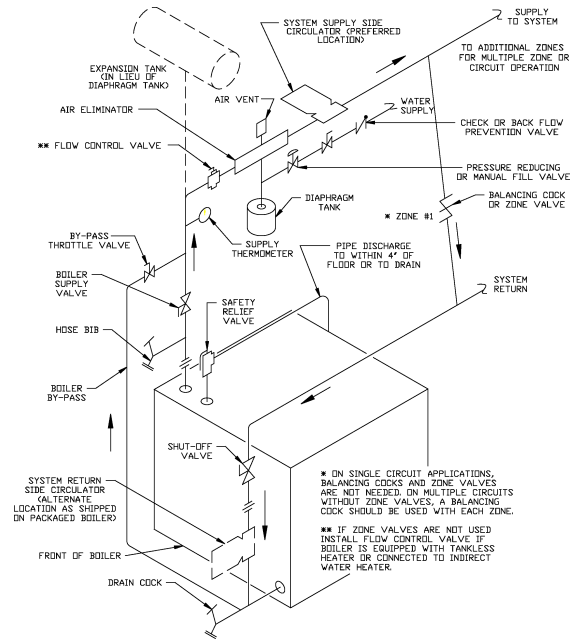

Figure 4: Recommended Boiler Piping For Series Loop Hot Water System
- a. For Forced Circulation HOT WATER HEATING. See Figure 4. Consult I=B=R Installation and Piping Guide No. 200.
Install a pipe tee between the circulator and boiler return along with a second tee in the supply piping as shown in Figure 4. The bypass should be the same size as the supply and return lines. Locate valves in the bypass and supply outlet as illustrated in Figure 4 for regulation of water flow to maintain higher boiler water temperature.